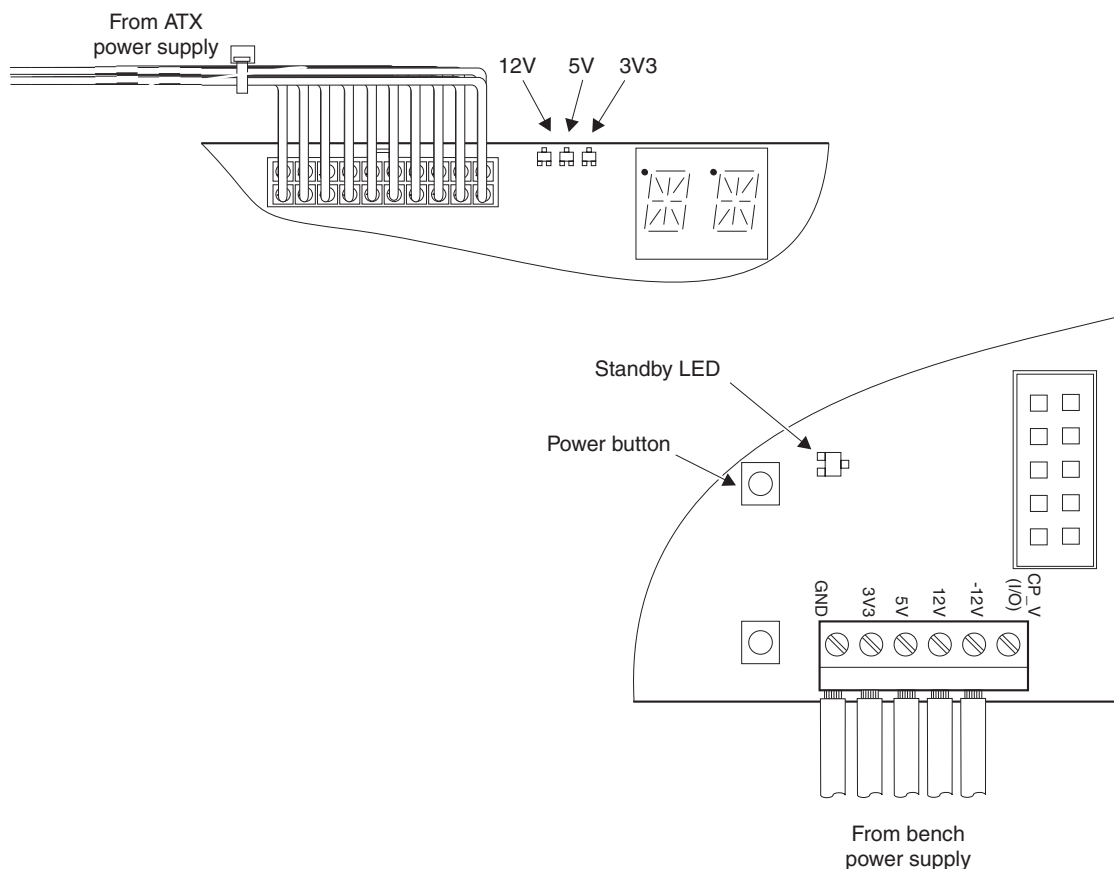

Figure 2-3 Power connections
Figure 2-3 shows these two connection methods.
1. Connect a power supply using one of the methods illustrated in Figure 2-3 on page 2-5.